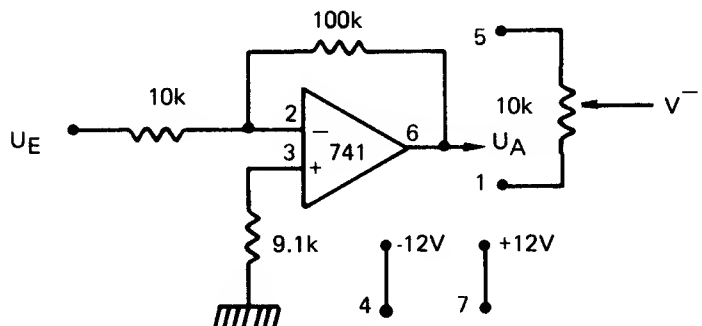

Figure A-3: Inverting Amplifier.
Figure A-3 shows an inverting amplifier with a gain of ten. The voltage  $U_2$  in equation (7) is zero.